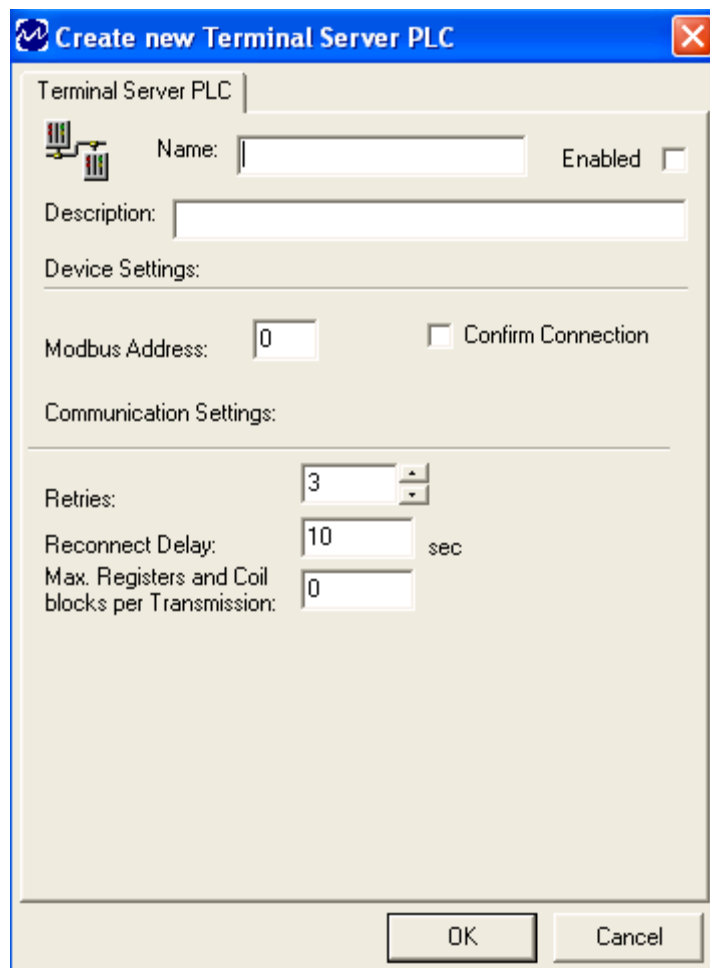

Figure 12 - Create New Terminal Server PLC Window
The **Create New** window (Figure 12) displays the settings available for a connection to a Terminal Server PLC.
- The **Create New** window (Figure 12) appears.